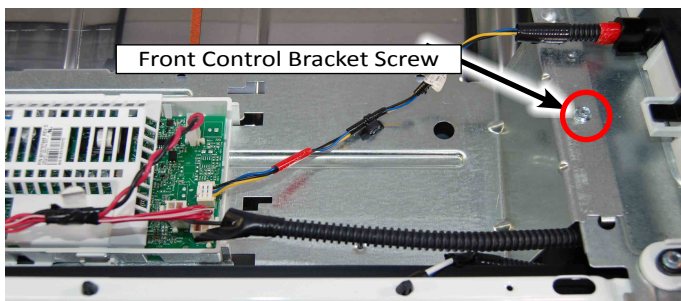

Figure 1
4. Remove front 1/4" hex-head screw securing the control bracket to the console bracket...or remove the entire control bracket (see Figure 1).